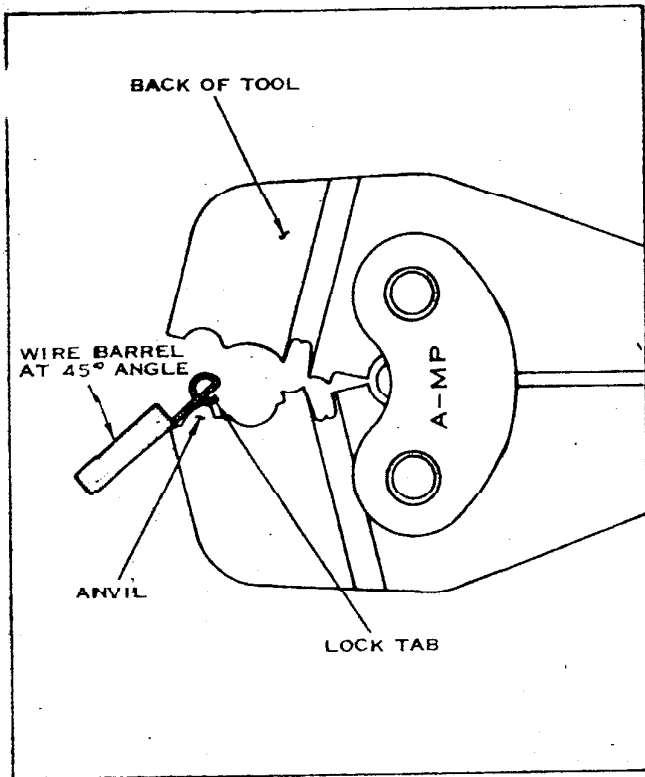

FIGURE 4
1. Open the Tool Handles, and center your terminal's wire barrel in the Crimping Section marked "FLAG". Figure 4 shows you how. Make sure the terminal's Lock Tab rests on the Anvil. The wire barrel should be angled at about 45 degrees.